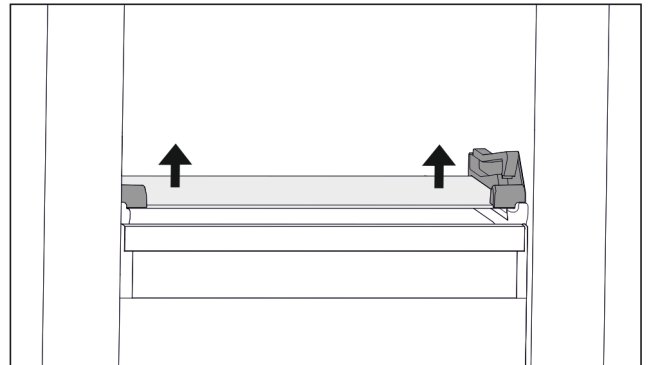

Fig. 97 Tilting drawer glass shelf
- Push glass shelf upwards from below on both sides. (see Fig. 97)